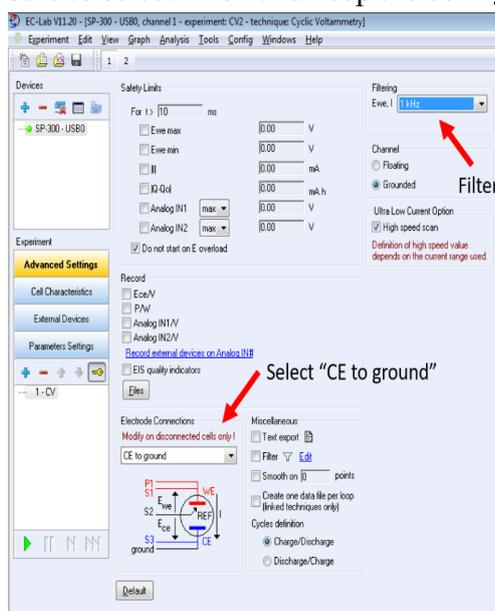

Figure 7. Selection of the electrode connection and the filtering band width in the ECLab Express software
8. Before starting EC experiments, in the **ECLab Express** “Advanced Settings”, make sure to select the “CE-to-Ground” option chosen for a bi-potentiostat, Figure 7. The band width can be set at 1kHz to allow data collections consistent with scanning speed of the tip. In selecting an experiment, one can either choose a single-channel experiment (CA/CV) that will only monitor Channel-1, or a bi-potentiostat experiments (CV-CA, CA-CA, CP-CA) by that monitors both Channels 1 and 2, Figure 8. Before starting an experiment, a dialog box may appear asking you to the change the electrode configuration, be sure to select “No” and keep the configuration at “CE to ground”, Figure 7-8.